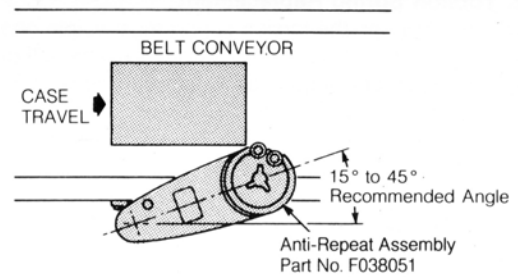

FIGURE 16
- Setting.* The recommended setting is shown in Figure 16.